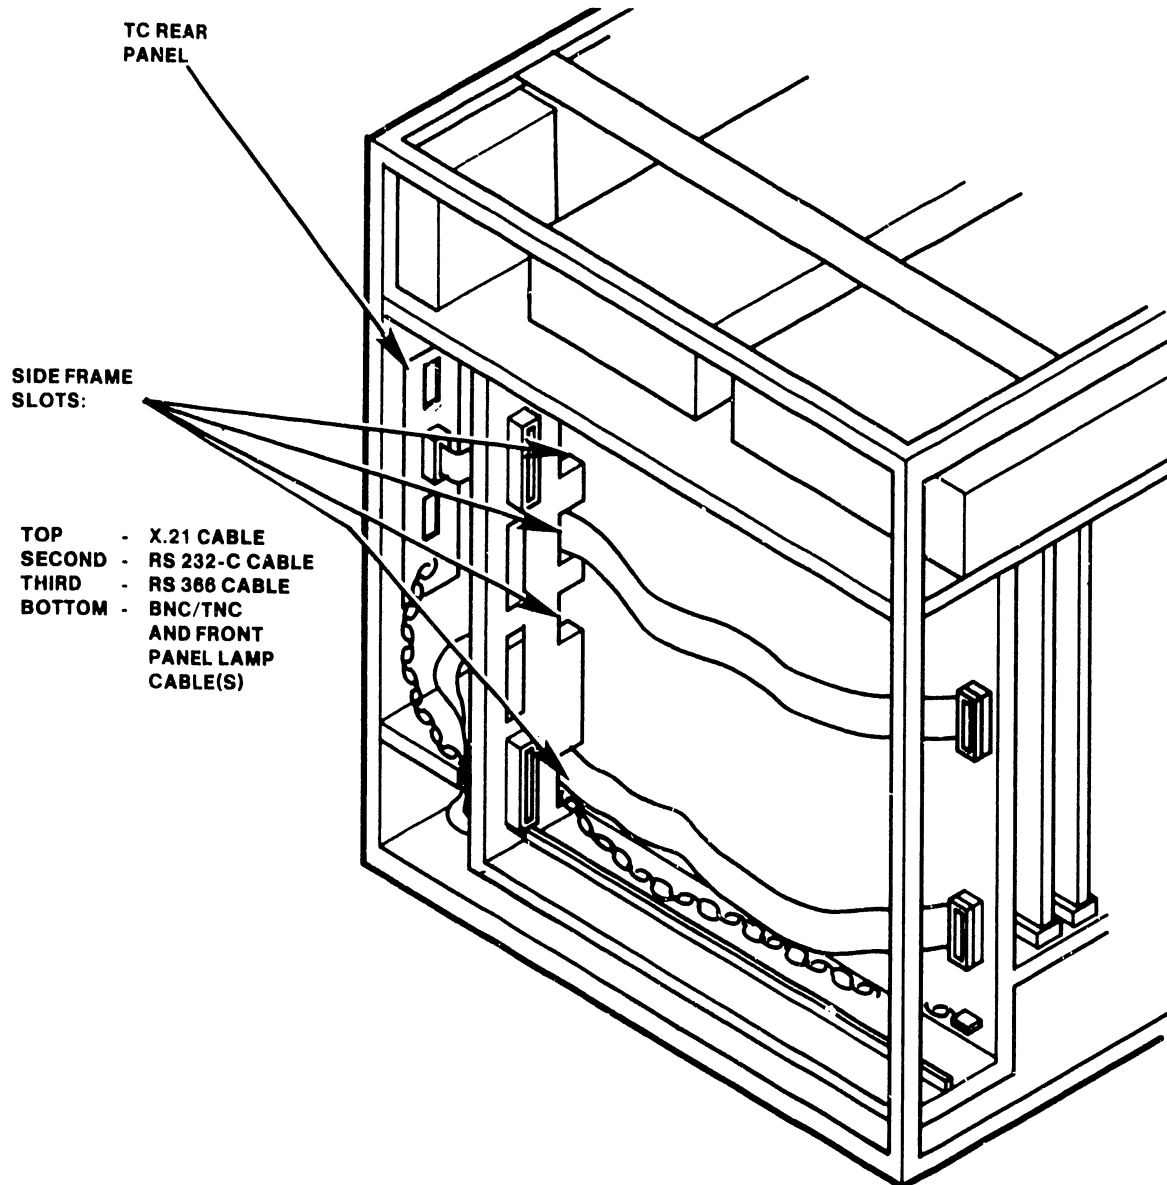

Figure 4-26 Side Frame Slots
4. Route the interface cables through the appropriate side frame slot (X.21 the top most slot, RS 232-C the second slot, and RS-366 the third slot from the top) located on the right-rear-side of master (viewed from rear) as shown in Figure 4-26.